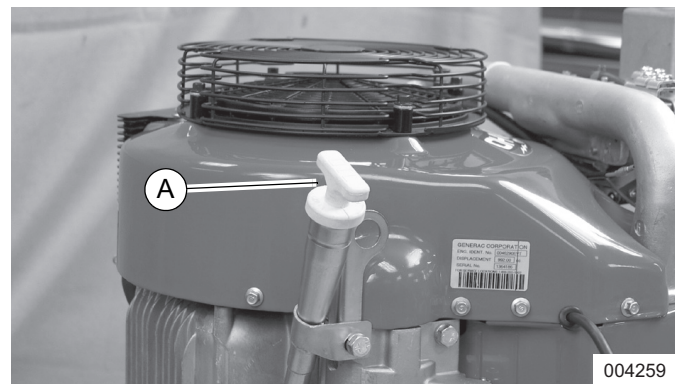

Figure 9-2. Oil Fill/Check Location (Vertical Shaft)
1. See Figure 9-2. Remove dipstick (A) and wipe it dry with a clean cloth.